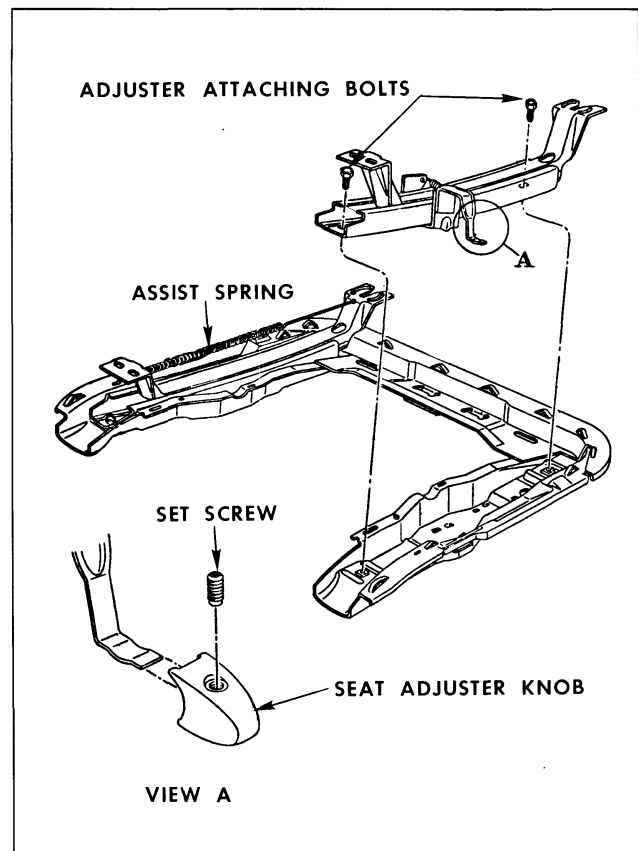

Fig. 22-3 Manual Bucket Seat Adjuster
2. If adjuster to be replaced is equipped with an assist spring, remove spring from adjuster (Fig. 22-3).
5. Remove adjuster-to-seat bottom frame front and rear attaching bolts and remove adjuster from seat assembly (Fig. 22-3).